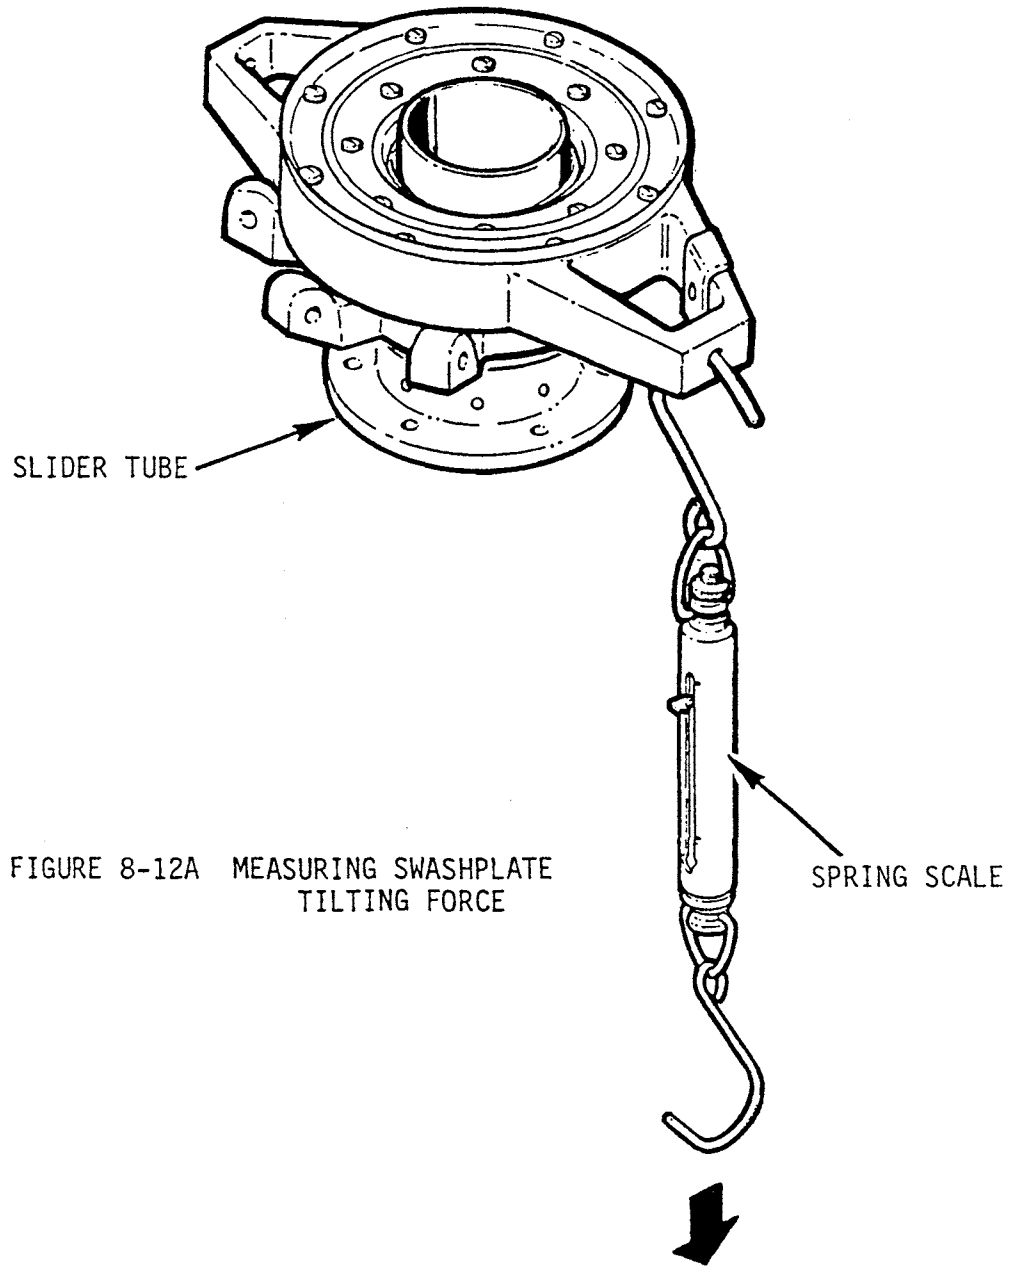

FIGURE 8-12A MEASURING SWASHPLATE TILTING FORCE
- b) Use a spring scale (MT359-1 or equivalent) to pull down at bolt hole in upper swashplate arm as shown in Figure 8-12A. The force required to tilt the swashplate must be free-without-looseness to five pounds maximum, measured while moving; do not use breakaway reading.